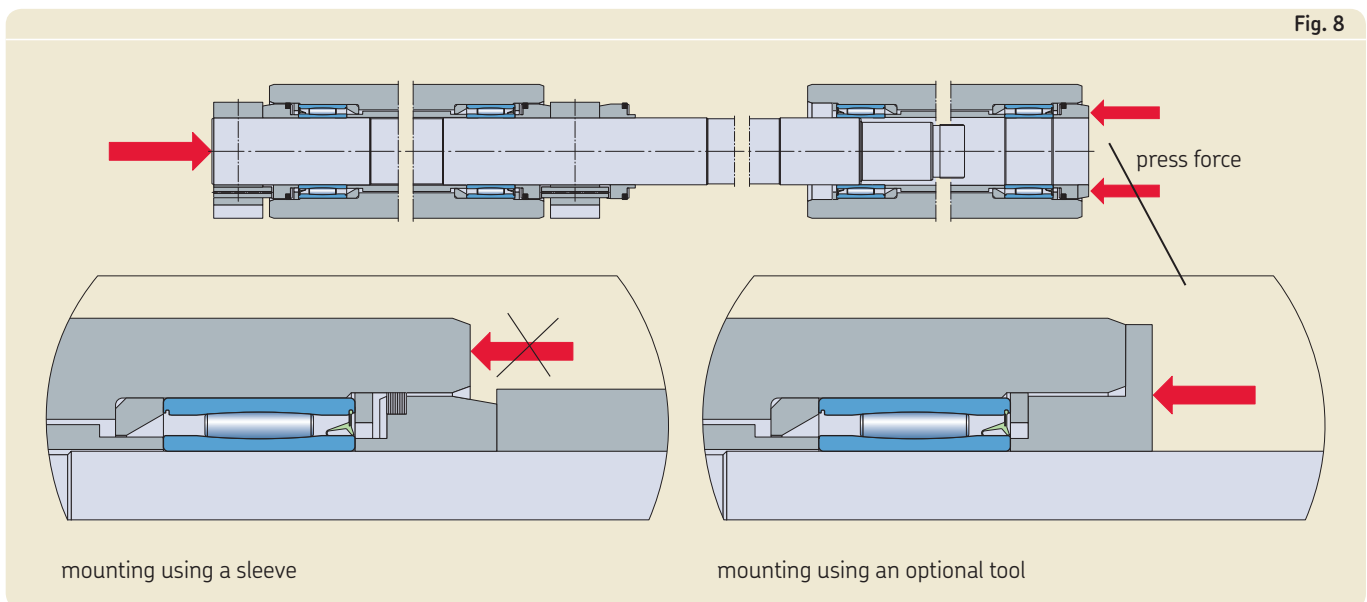

Fig. 8
- Mount the pre-assembled roll from the end of the shaft. Push the roll via the outer stationary seal ring all the way until the inner stationary seal ring is resting against the support block (→ fig. 8).